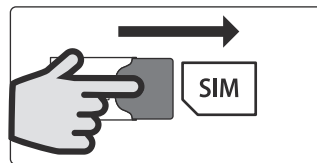

Fig. 56
3. When the other side of the nano SIM sticks out of the SIM holder on the right side carefully use your index finger to slide the nano SIM out of the holder, **Fig.56**.